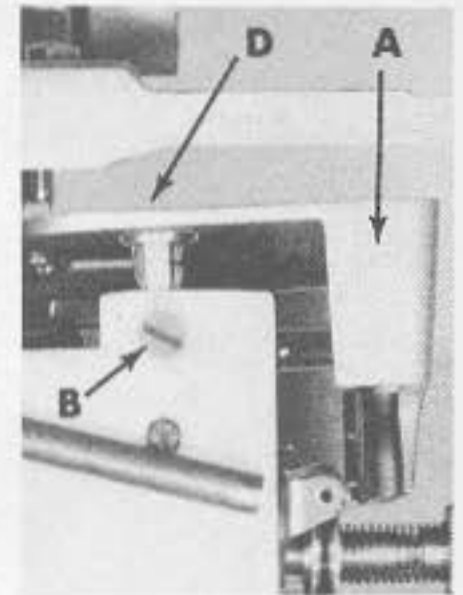

Fig. 4
CAUTION: When removing the cloth plate (A, Fig. 4) loosen the cloth plate stud locking screw (B) and lift up cloth plate with the cloth plate stud (C) and cloth plate screw (D) assembled.